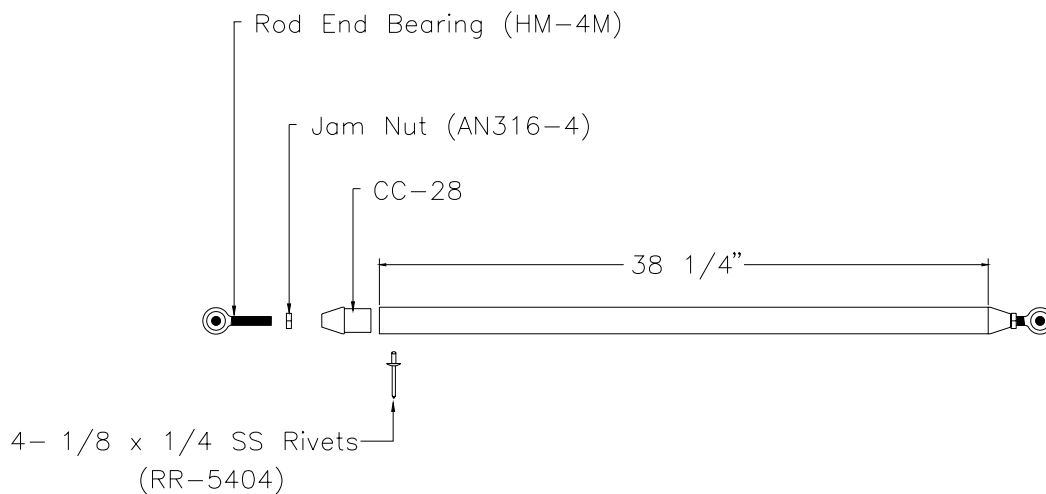

Figure 20.7.1
1) Cut a push-pull tube from 1" x .058" tube (CC-50) to fit between the bell crank (CC-47-2) and mixer (CC-48-2). Figure 20.7.1.
- 9) Cut and assemble a push-pull tube from 3/4" X 0.035 tube to this measurement, in the same way as in Fig. 20.7.1. .